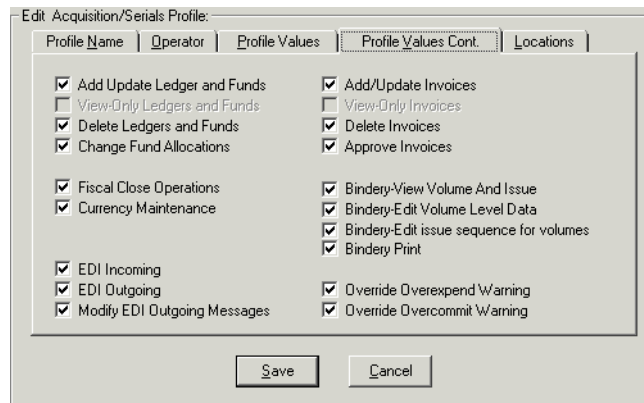

Figure 5-3. Profile Values tab - Ledgers and Funds
6. Click the **Profile Values** tab for the operator. Make sure the appropriate check boxes are selected for ledgers and funds (see Figure 5-3).